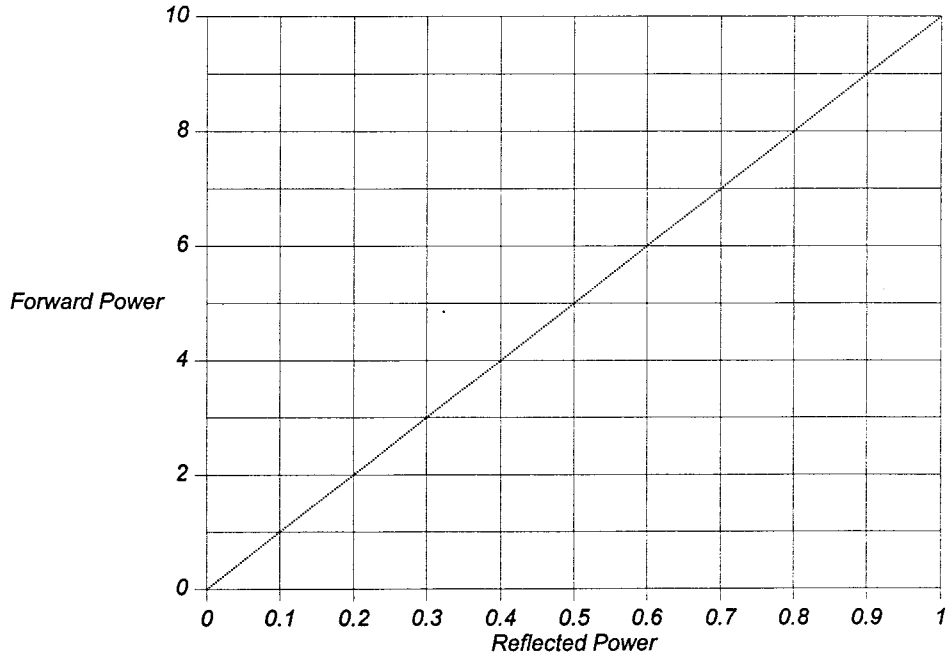

Fig 1 VSWR graph
- 2 Plot the power readings obtained at Para 1, using the VSWR graph at Fig 1 and ensure that the VSWR is not greater than 2:1.
- (1) The graph at Fig 1 was derived from the following formula for calculating the VSWR, given forward power (fp) and reflected power (rp):